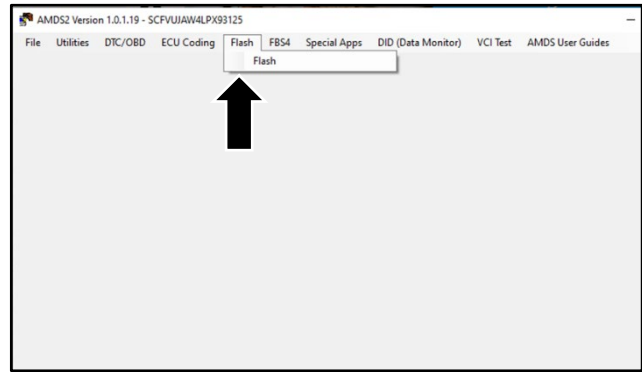

Figure 1
- 4. Select "Flash" (refer to Figure 1).